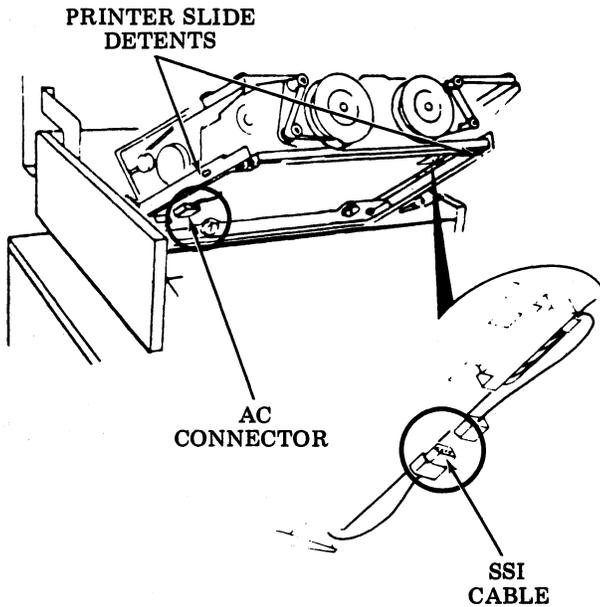

Fig. 5—Printer in Tilt Position
- (2) Disconnect interlock cable connector.
- (3) Remove paper roll.
- (4) Release printer to tilt position (Fig. 5) by depressing left and right release levers.